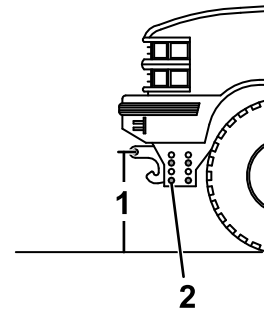

Figure 42
1. Measure the distance from the ground to the coupler spring-pin holes on the undercarriage pushbeam (Figure 42). The measurement should match the height listed for your plow in Specifications \(page 28\).
2. If the pushbeam is not at the correct height, remove the fasteners securing the pushbeam to the undercarriage (Figure 42).